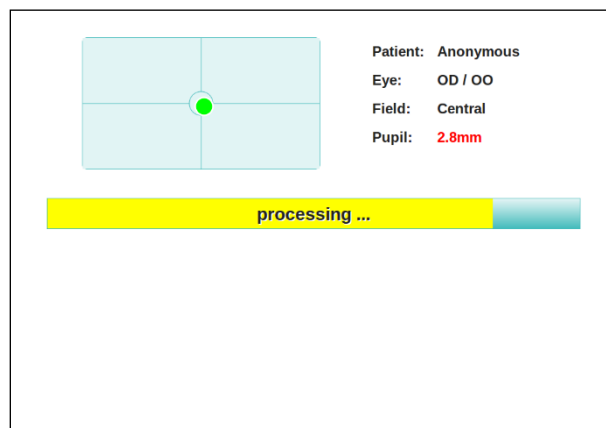

Figure 13 - Image processing and saving in progress
- Store the image in the local hard drive (see Figure 13);